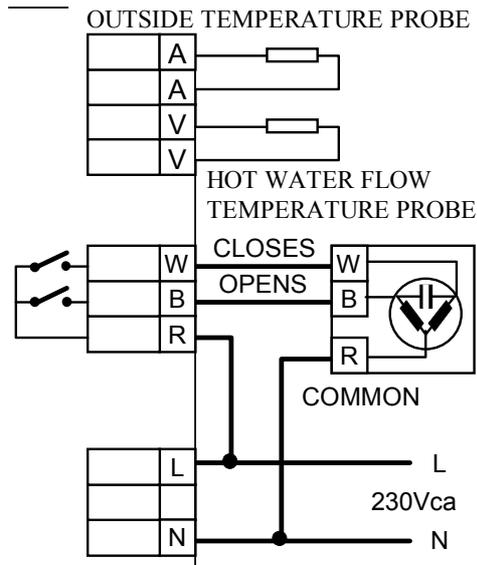
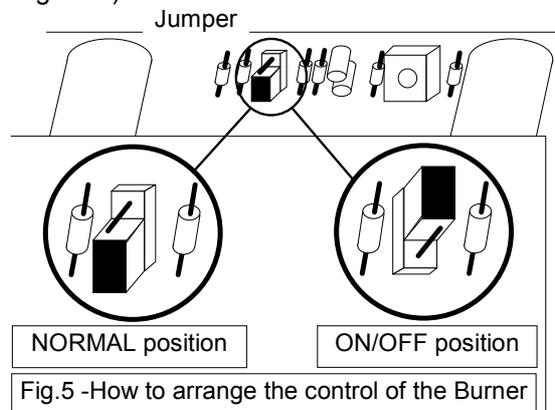

Fig.4 - Wiring diagram
Fig.5 -How to arrange the control of the Burner
terminal, and the "R" (Common) terminal, as is shown in Figure 4.
**NOTE:** The Climac 4C can be set for the direct control either of the burner or the circulation pump. To obtain one of these options, the jumper should be shifted from the "NORMAL" position to the "ON/OFF" position (See Figure 5). The jumper is placed on the upper part of the Printed Circuit Board, and is accessible from the back of the plate. In this case, the "R" (Common) terminal and the "B" (Opens) terminal will be used for the controlling of either a relay or a remote-control switch to which either the burner or the pumps will be connected. (See Figure 4).